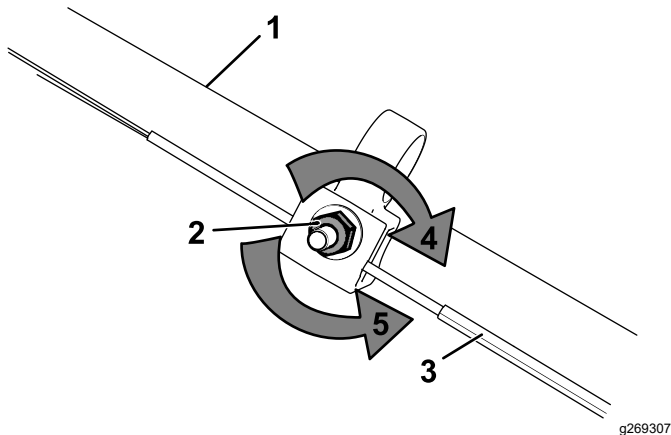

Figure 31
2. Adjust the tension on the cable (Figure 31) by pulling it back or pushing it forward and holding that position.